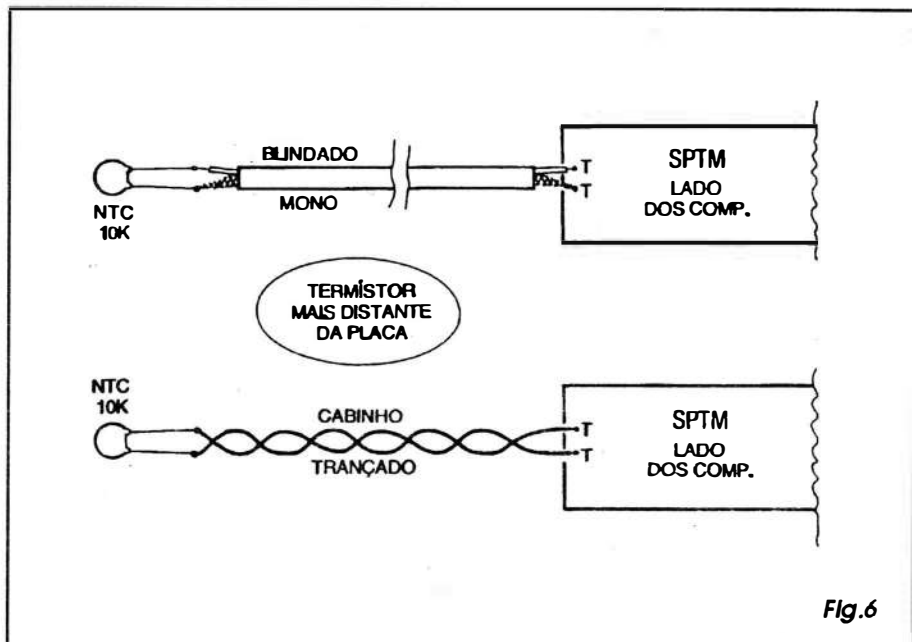

Fig.6
- FIG. 6 - OUTRAS OPÇÕES PARA CONEXÃO DO TERMO-SENSOR...